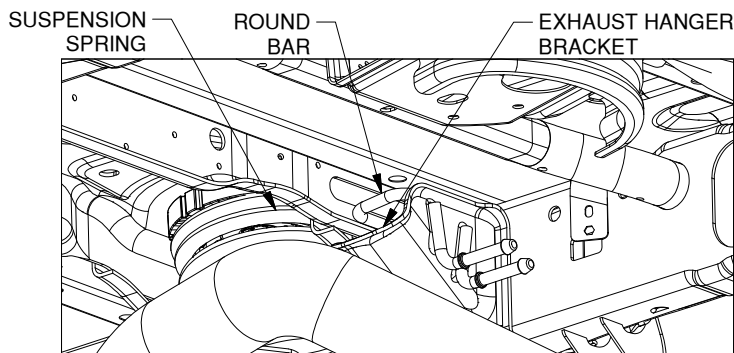

Figure A1: View looking up at the inside of passenger side frame.
**IMPORTANT:** A variation between truck models requires a different installation procedure for the rear mounting rail. Look at the exhaust hanger bracket below the bed on the inside of the passenger side frame behind the suspension spring. A piece of round bar may be present inside the exhaust hanger bracket that limits access to the area. When installing the rear mounting rail, if the bar is present follow the "Install Rear Mounting Rail 2019+ Trucks" section. If not present, follow the "Install Rear Mounting Rail 2014-2018 Trucks" section. See Figure A1 for reference.